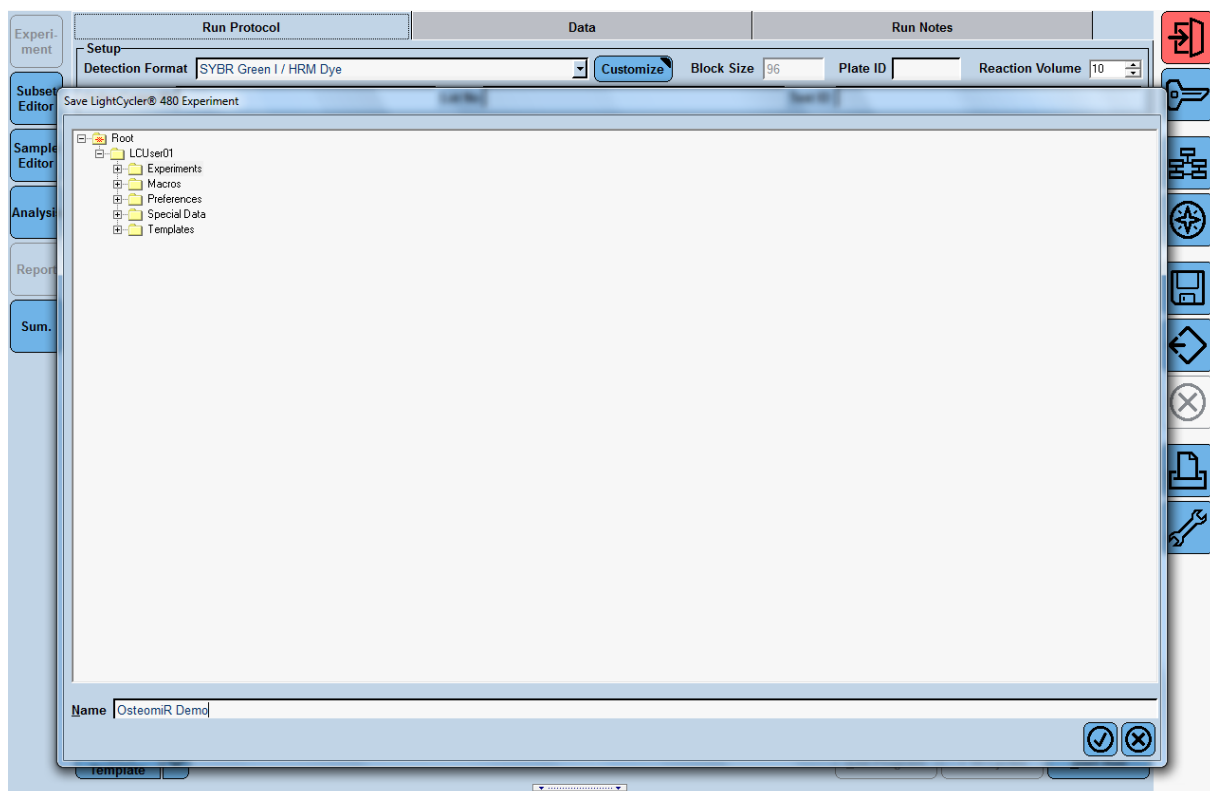

Figure 7: Choose a directory for your osteomiR™ experiment to be saved and proceed with
5. The window shown in Figure 7 appears- Choose a directory for the experiment to be saved and proceed with , the qPCR run starts.